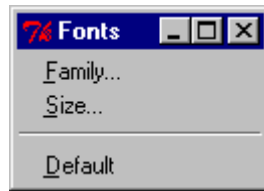

Figure 7-21. Fonts Dialog Box
- **F**onts—A cascading menu that provides access to font family selection and font size selection dialog boxes. Selecting the **D**efault item returns the interface to its original state. Figure 7-21 shows the Fonts dialog box:
- Fonts—A cascading menu that provides access to font family selection and font size selection dialog boxes. Selecting the Default item returns the interface to its original state. Figure 7-21 shows the Fonts dialog box: